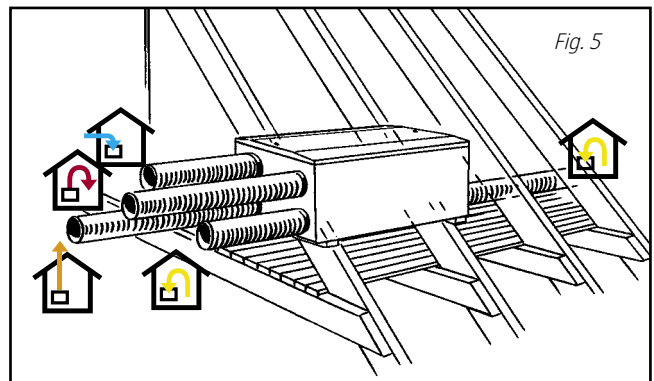

Fig. 5
- The extract duct can be connected to both of the short sides in the case of shorter ducts (Fig. 5).
- All duct connections on one side of the unit plus an extra extract duct on the other side (Fig. 5).